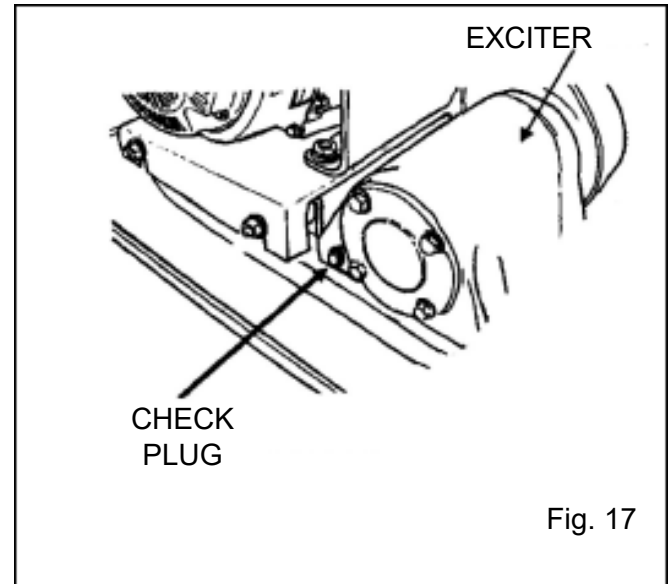

Fig. 17
2. Check the exciter oil level by removing the check plug as shown in Figure 17. The oil level should reach the edge of the oil filler hole. Add hydraulic oil if necessary.
4. When changing the exciter oil, remove the check plug (Figure 17) and tilt the compactor to drain the oil. Note that oil drains more easily when hot.